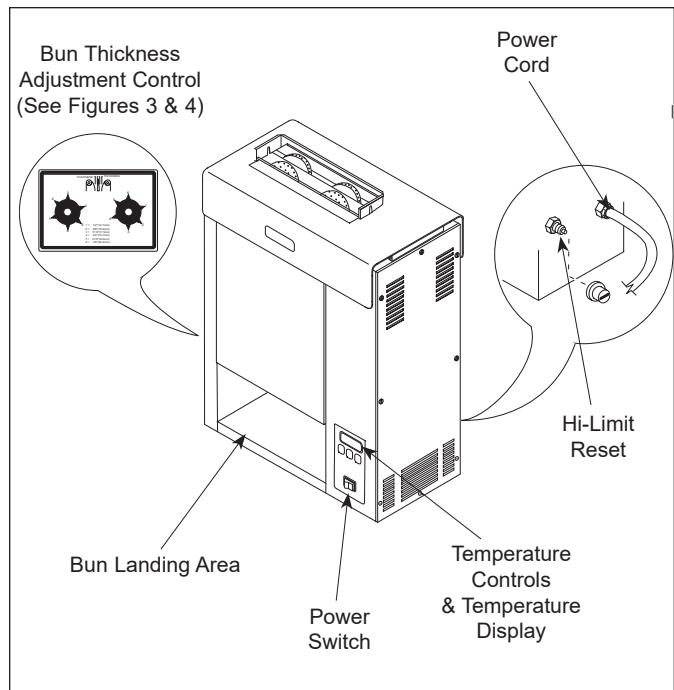

Figure 2. VCT-2000 Toaster
1. Set the Bun Thickness Adjustment Controls (Figures 2 & 3) to desired setting.
**NOTE: The temperature display (Figure 2) will flash "LO" until the toaster reaches its preset operating temperature. When the toaster approaches the preset temperature of 600°F (315°C), "USE" appears in the temperature display and the unit is ready to toast buns. If "USE" does not appear in the window after warm-up period of approximately 30 minutes, contact your Authorized Service Agency.**
3. Drop Crowns and Heels into the slot (Figure 2). Cut sides of heel and crown must face each other.
4. Toasted buns will drop into the Bun Landing Area (Figure 2) in approximately 10 seconds.
A Hi-Limit Control turns off electrical power to the heater and control circuits if the platen overheats. To reset the control, allow sufficient time (10-15 minutes) for the unit to cool, then locate the Reset Button at the rear of the unit. Remove the black protective cap, press the Reset Button, and reinstall the protective cap (Figure 2).